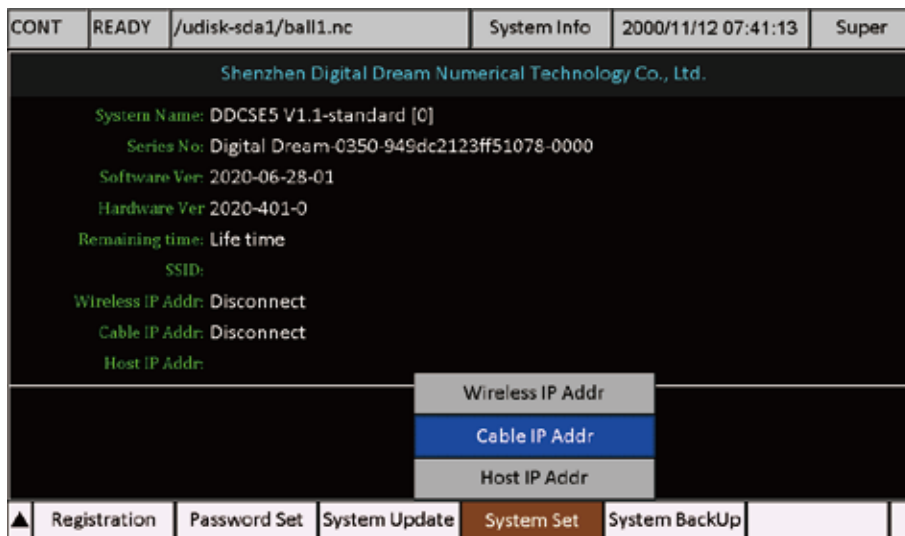

Figure 8-39 Cable IP Address
- 3) Press Enter and move down to “Cable IP Addr”,it shows as Figure 8-39 shows;